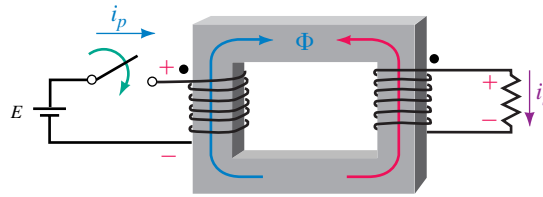

FIGURE 24-12 Determining dot positions.
2. The resistor of Figure 24-12 is required only to work through the physics to establish the secondary voltage polarity. You can now remove it without affecting the resulting dot position.